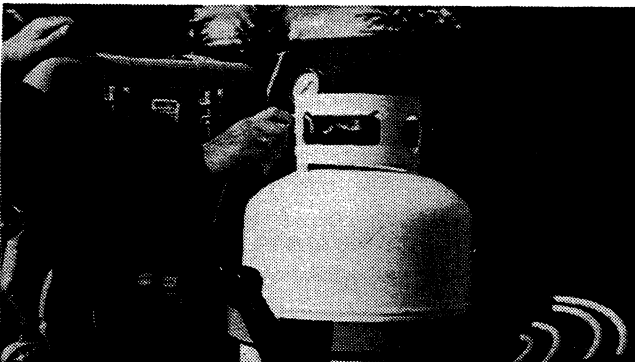

Figure 4-2 – Adjusting Propane Pressure
2. Adjust pressure valve in or out until gauge reads between 6 and 8 pounds as shown in Figure 4-2.